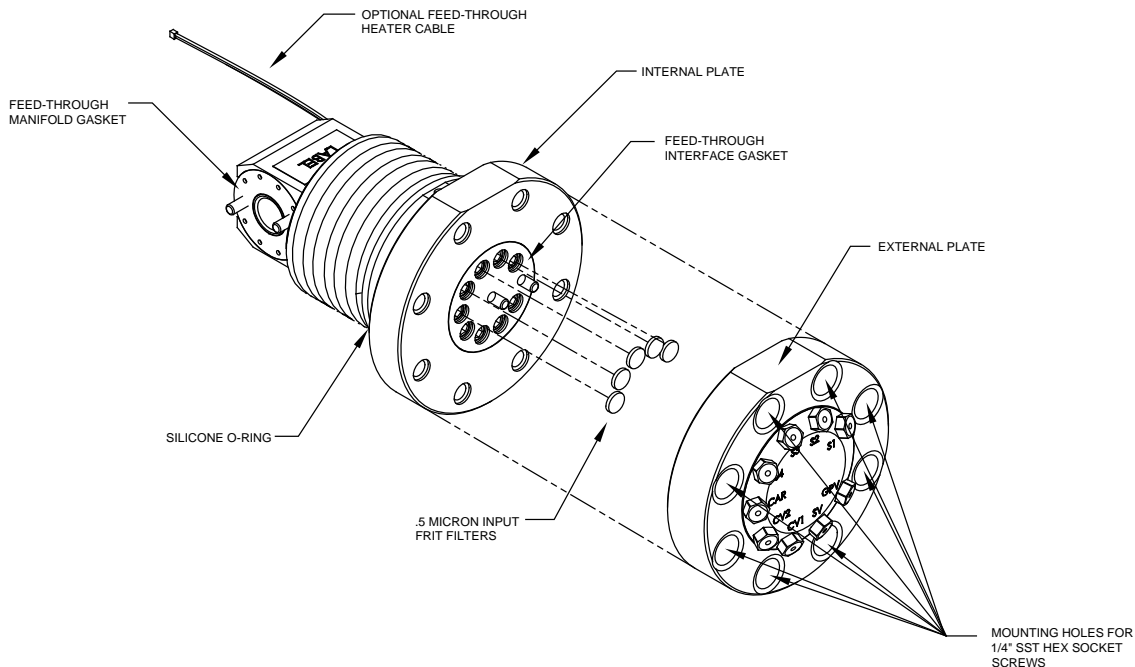

Figure 5-12 Feed-through Assembly, Exploded View
- 5) Using a 7/32" hex wrench, loosen and remove all 8-1/4" hex socket screws (see Figure 5-12).
Should the feed-through interface gasket require replacement (see Figure 5-12), follow these instructions. Typically, the user would change the gasket while performing another procedure, but for the purposes of this manual, the instructions will start and finish as a complete procedure.
Should the feed-through manifold gasket require replacement (see Figure 5-12), follow these instructions. Typically, the user would change the gasket while performing another procedure, but for the purposes of this manual, the instructions will start and finish as a complete procedure.